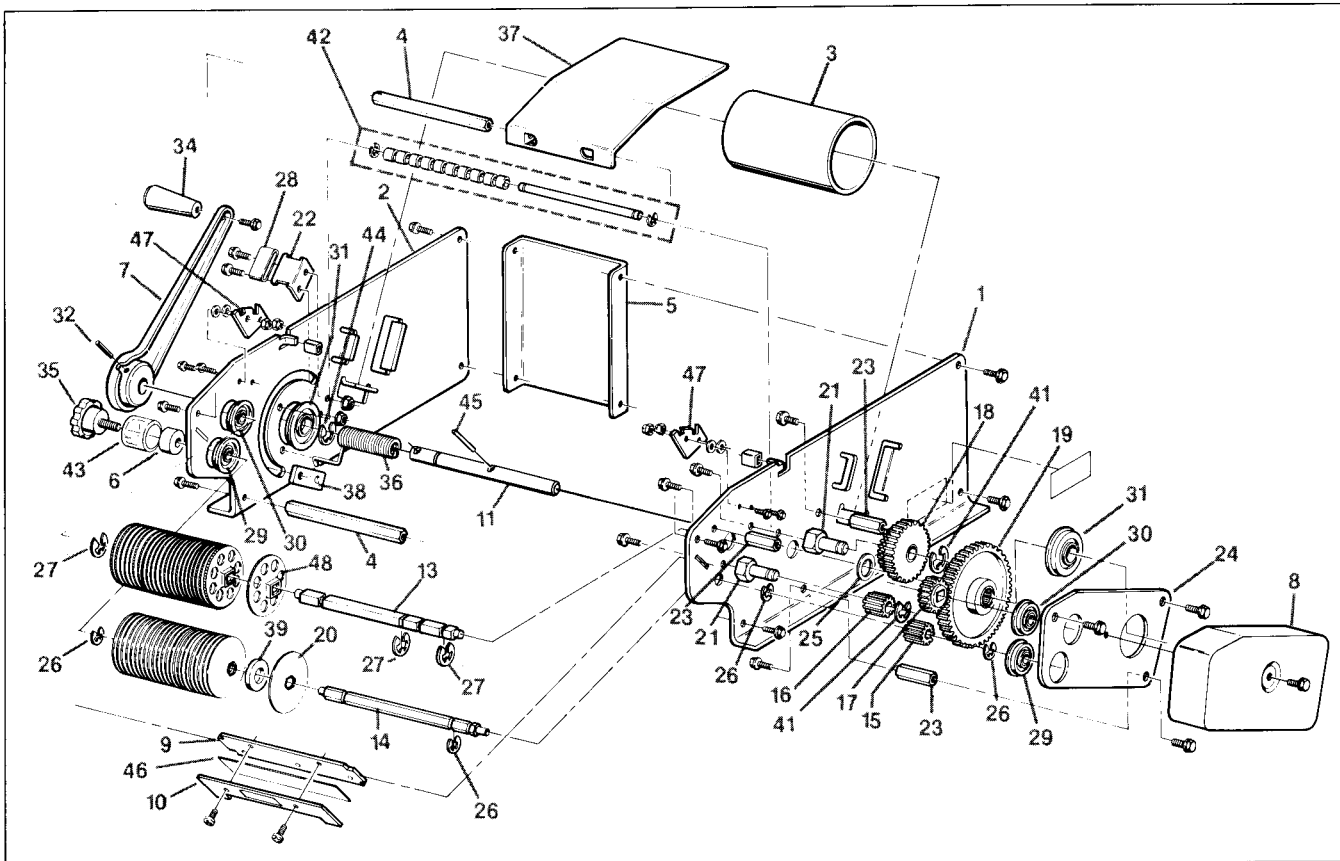

Figure 2 – Replacement Parts Illustration
1. Refer to Parts Illustration Figure 2 to find part needed and reference number.